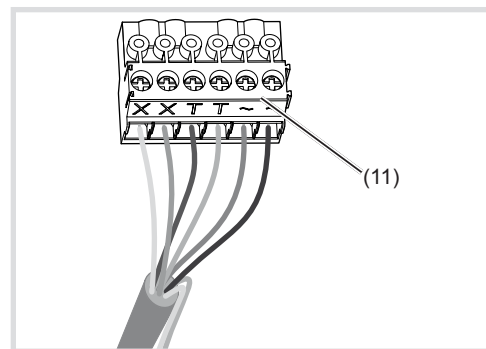

Figure 3: wired connection terminal block
Connect one of the video distributor XX terminals to the camera connection terminal block (figures 3 and 4).
- For camera heating connect 12 V~ lead from the power transformer to the terminals ~ of the connection terminal block (figures 3 and 7).
Connect door release to the terminals TT of the connection terminal block (figures 3 and 4) if required.